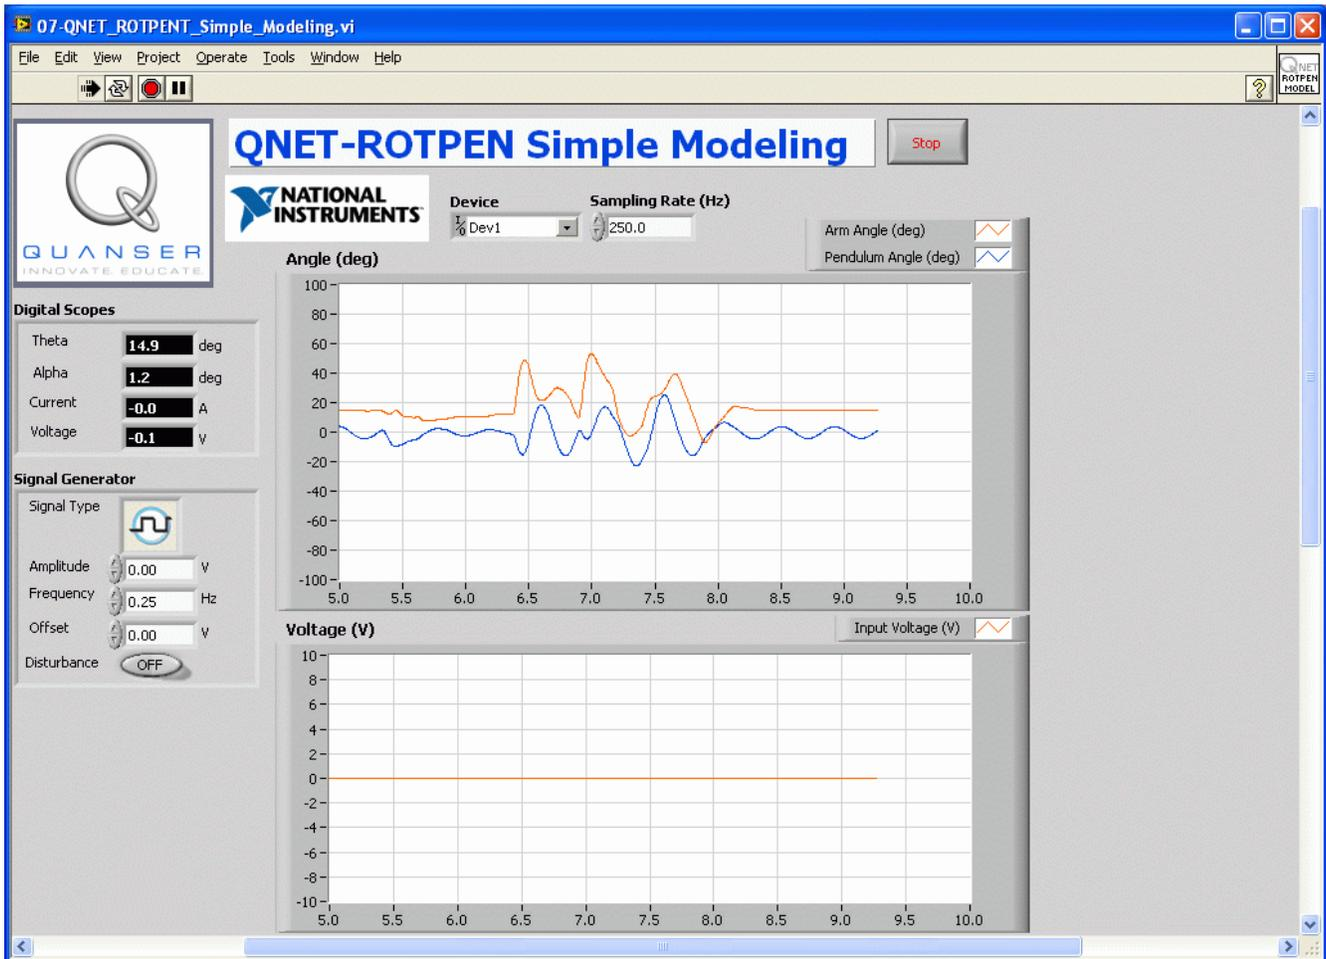

Figure 8: QNET ROTPEN Simple Modeling VI.
3. Run the QNET_ROTPEMPT_Simple_Modeling.vi, shown in Figure 8.